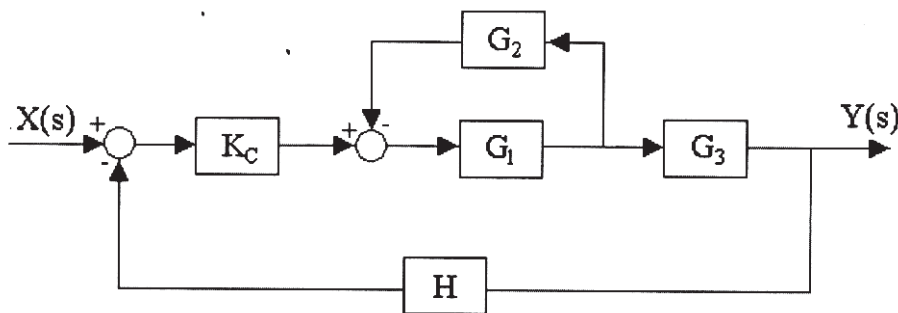

Figure Q8 (a)
- Q8) a) Simplify the block diagram given in Figure Q8 (a) and obtain the expression for  $Y(s)/X(s)$ . [8]